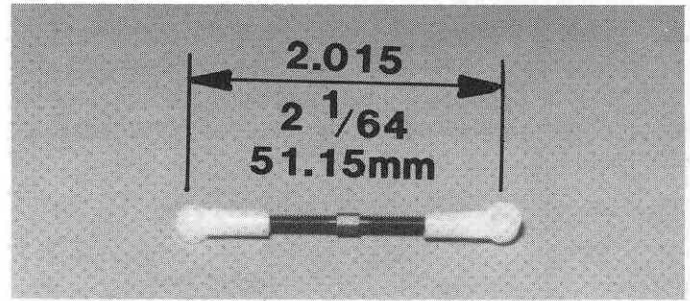

Fig. 114
□ **Fig. 114** Take the 2 threaded rods and screw 2 plastic rod ends on each to the dimension shown. Note that on this strut one ball faces forward and one faces to the rear.